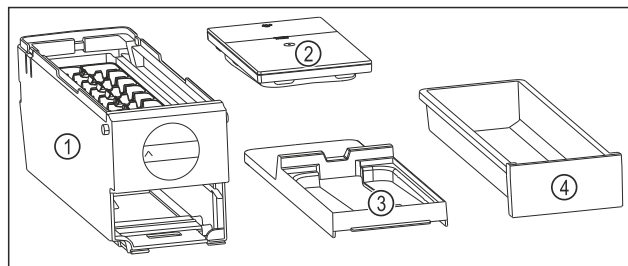

Fig. 214 Components of the EasyTwist-Ice
- EasyTwist-Ice is dismantled into four parts. (see Fig. 214)
- Only dismantle the EasyTwist-Ice into the components shown. (see Fig. 214)
- Clean the EasyTwist-Ice body Fig. 214 (1) as a whole.